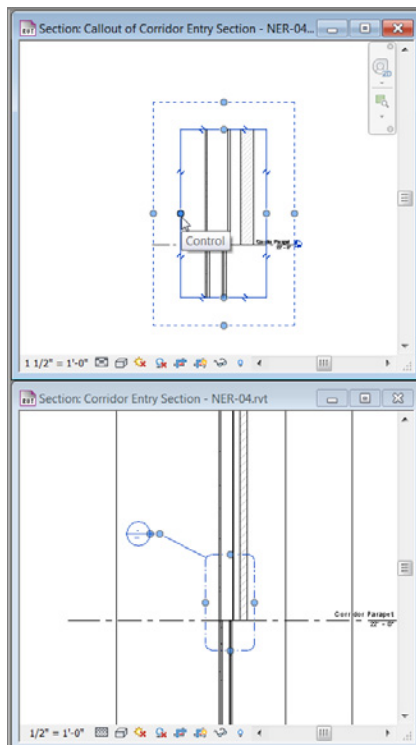

FIGURE 3.66: Modify the crop region by selecting it and stretching the grip.
The callout window is selected in the Corridor Entry Section along with the crop region in your callout. That is because the two objects are one and the same (see Figure 3.66).
14. Stretch the crop region closer to the actual wall, as shown in Figure 3.66.